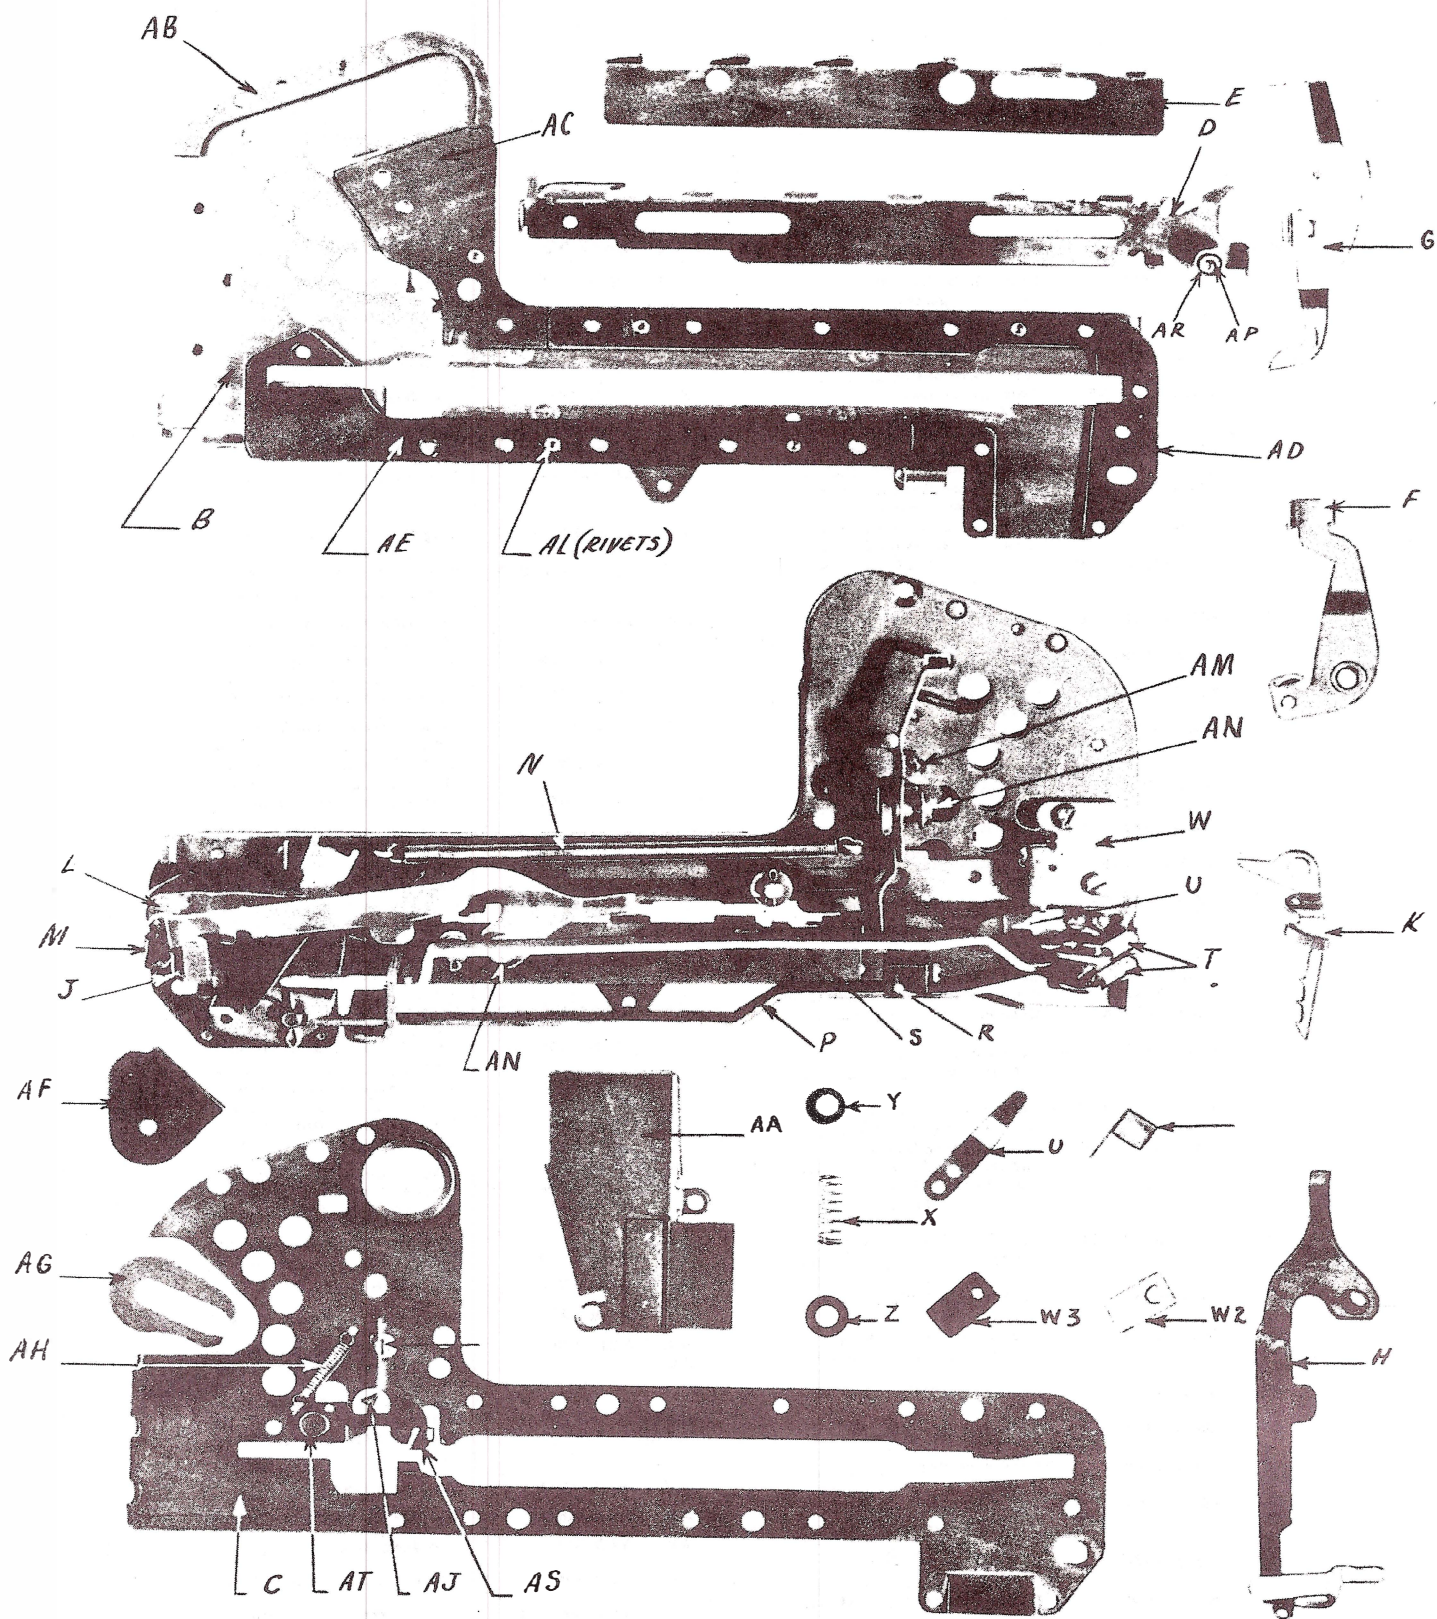
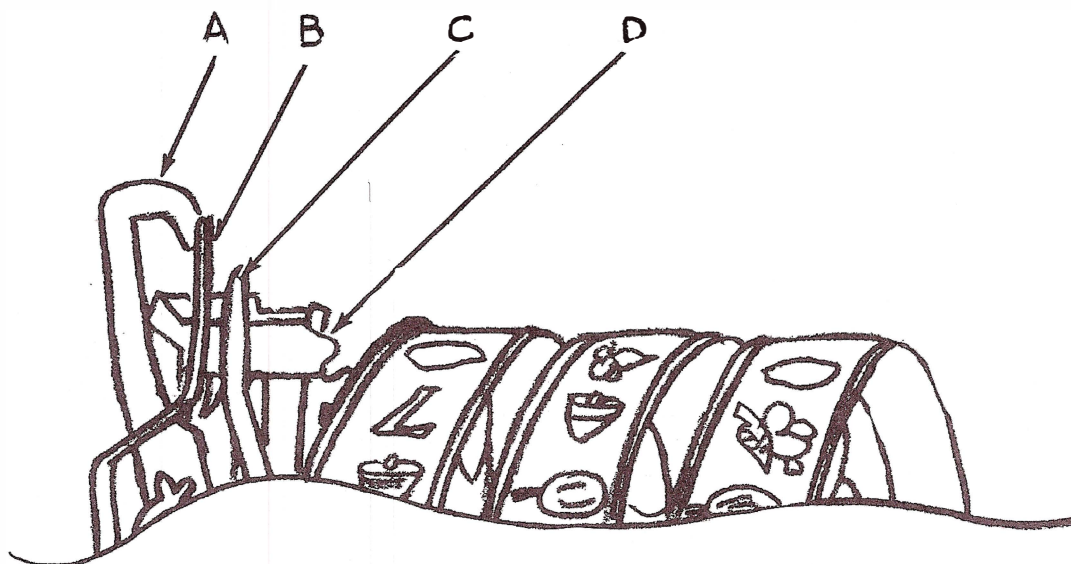

Figure 1
Figure 3
- . The correct coin however, passes the magnet, continues on the correct path and lands directly in front of the finger of the coin detector lever (P figure 1).
- . The coin is prevented from continuing across the escalator by the first "tooth" of the coin holding bar (E).
- . A small cut in the face plate directly in front of the coin detector finger also acts to reject smaller coins. They are pushed out thru the front by the finger and slide down the slug chute cover assembly (AA).
- . The coin advance bar operating lever (A figure 3) is "Hooked" over the lip of the coin advance bar lever (F, Figure 1).
- . The coin detector lever, (P Figure 1) is not being pushed forward by the coin detector operating lever (C, Figure 3).
- . The coin detector operating lever (C Figure 3) is not rubbing against the coin detector lever (P, figure 1) end guide.
- . The check detector operating arm (B, Figure 3) is not pushing against the check detector lever (S, Figure 1)
- . The coin advance bar operating lever strikes the protruding bar of the coin bar release lever (H. Fig 1) and moves it up.